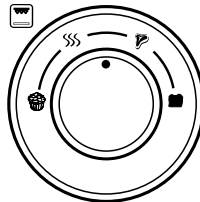

Figure 2
2. **Function Selector Knob** – Select cooking function by turning knob to desired setting. (See Figure 2)